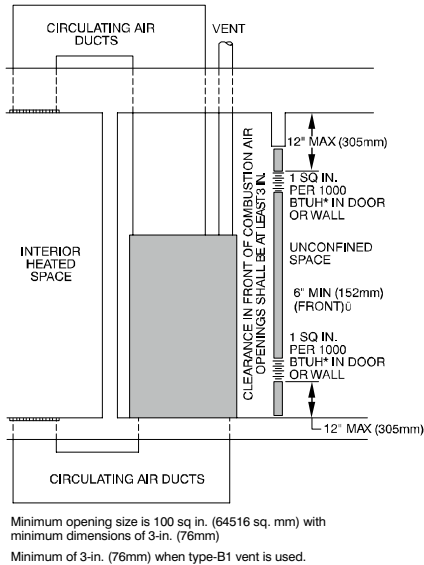

Fig. 9 – Air for Combustion, Ventilation, and Dilution from Indoors
- b. Combining spaces on same floor level. Each opening shall have free area of at least 1 in.2/1,000 Btuh (2,000 mm²/kW) of the total input rating of all gas appliances in the space, but not less than 100 in.2 (0.06 m²). One opening shall commence within 12 in. (300 mm) of the ceiling and the second opening shall commence within 12 in. (300 mm) of the floor. The minimum dimension of air openings shall be at least 3 in. (80 mm), see Fig. 9.